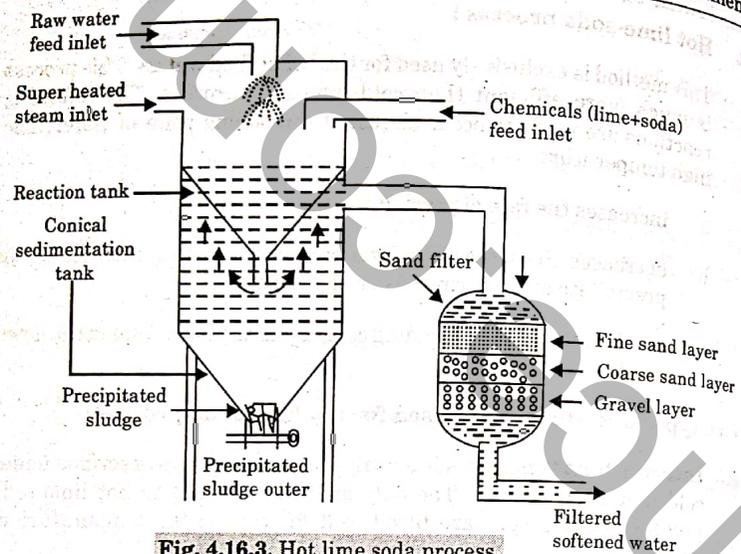

Fig. 4.16.3. Hot lime soda process.
- vi. Now a days settling tank is combined with reaction tank as shown in Fig. 4.16.3.